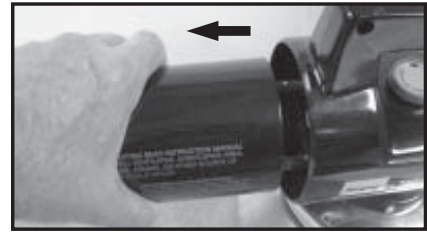

Figure 1
1. **With fogger unplugged,** inspect nozzle cap by pulling barrel away from fogger body as shown. **(See Figure 1)**